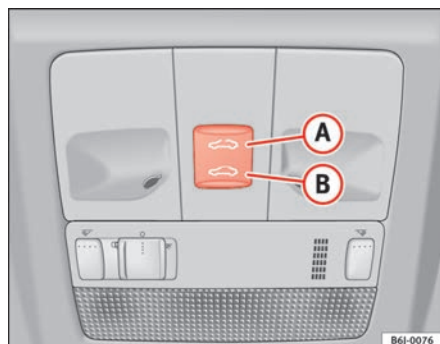

Fig. 50 Panoramic/tilting sunroof
- Press and hold button **(B)** ⇒ fig. 50 ⇒ , the roof starts to close until the button is released.